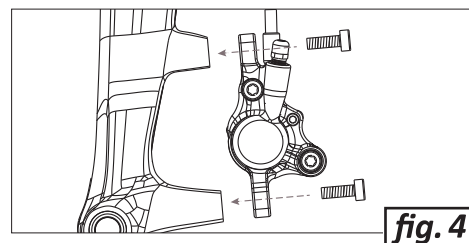

fig. 4
- For installation of front **post-mount caliper**, attach caliper to post mount fork or adapter using M6 bolts and 5mm Allen (hex) wrench. (fig. 4) Do not fully tighten the bolts at this stage.